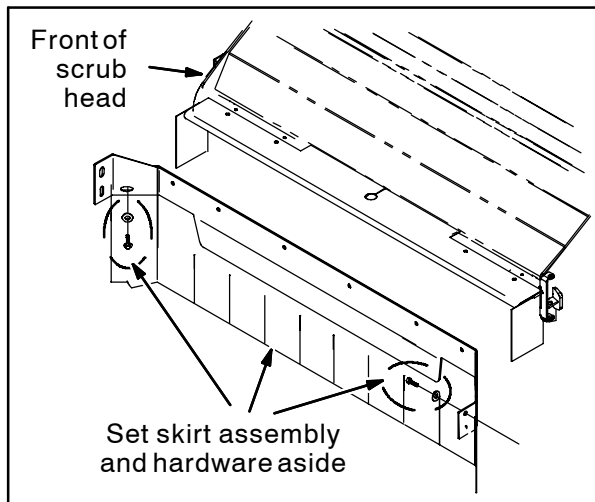

FIG. 6
31. Remove the skirt assembly from the front of the scrub head. Set the skirt assembly and mounting hardware aside. Refer to Fig. 6.
36. Reinstall the skirt assembly onto the front of the scrub head. Refer to Fig. 6.